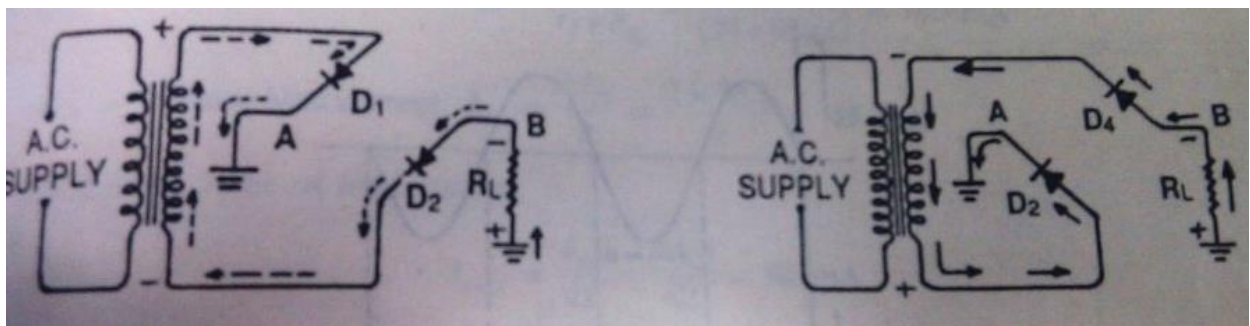

Figure 1.2.9
**Operation:** During the positive half cycle of secondary voltage, the end P of the secondary winding becomes positive and end Q negative. This makes diode  $D_1$  and  $D_3$  forward biased while diode  $D_2$  and  $D_4$  are reverse biased. Therefore, only diodes  $D_1$  and  $D_3$  conduct. These two diodes will be in series through the load  $R_L$  as shown in Figure 1.2.9(i). The conventional current flow is shown by dotted arrows. It may be seen that current flows from A to B through the load  $R_L$ .
During the negative half cycle of secondary voltage, the end P of the secondary winding becomes negative and end Q positive. This makes diode  $D_2$  and  $D_4$  forward biased while diode  $D_1$  and  $D_3$  are reverse biased. Therefore, only diodes  $D_2$  and  $D_4$  conduct. These two diodes will be in series through the load  $R_L$  as shown in Figure 1.2.9(ii). The conventional current flow is shown by solid arrows. It may be seen that current flows from A to B through the load in the same direction as for the positive half cycle. Therefore, dc output is obtained across load  $R_L$ .
Consider the full wave rectifier shown in Figure 1.2.9. Let  $v = V_m \sin \theta$  be the alternating voltage to be rectified. Let  $r_f$  and  $R_L$  be the diode resistance and load resistance respectively. Obviously, the rectifier will conduct current through the load in the same direction for both half cycles of input ac voltage. The instantaneous current  $i$  is given by